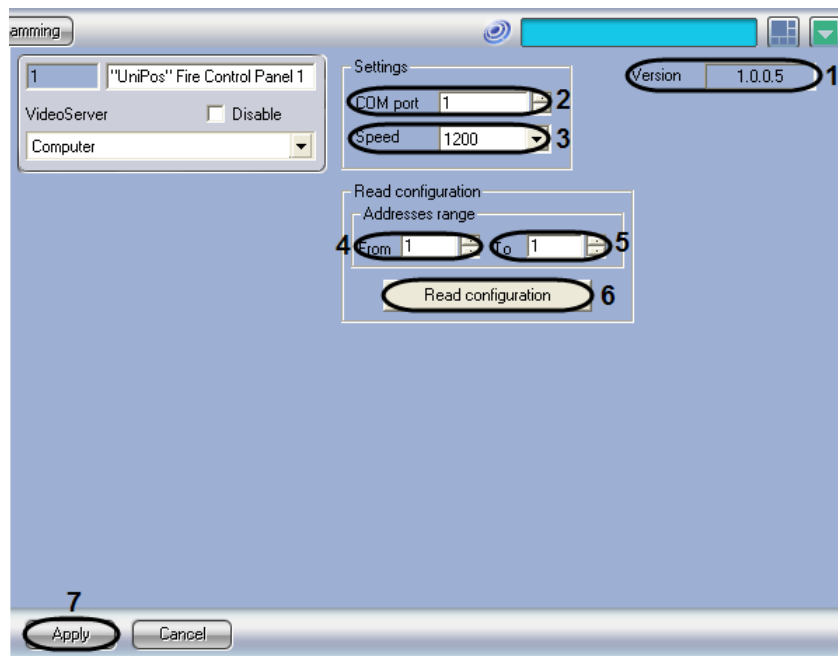

Fig. 3.2—2 Configuring the parameters of the Unipos FSA
Note. The “Version” field shows the version of the Unipos Integration Module (see Fig. 3.2—2, 1).
2. In the “COM port” field, enter the number of the COM port utilised for connection to the Unipos FSA via the selected IFS7002 FCP (see Fig. 3.2—2, 2).